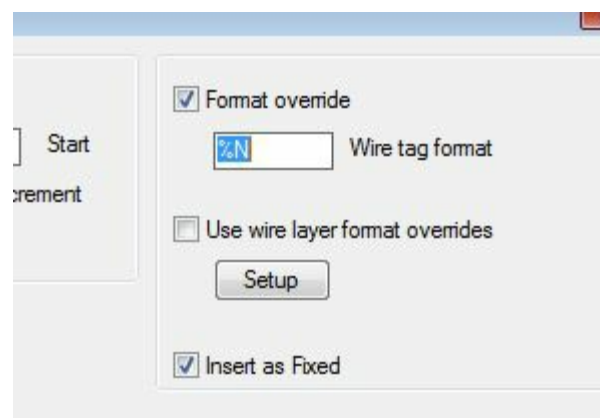

Figure-45. Format override
- Click in the edit box and remove **%S.** from the edit box so that **%N** is left in the box; refer to Figure-45.